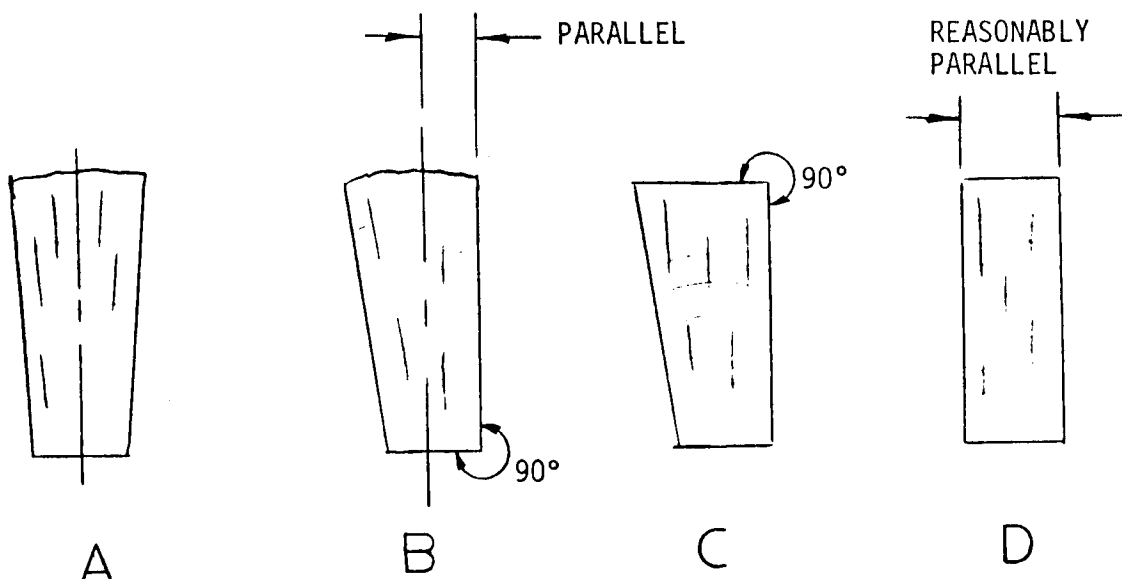

Figure 5-10. Neck Block Preparation
First, you can save yourself a lot of grief in laying out the neck if you spend a little time preparing the wood block. Lay out a line perpendicular to the center of the log as shown in Figure 5-10(A). Plane one side parallel with this line (B). Plane the wide edge square with this surface (C). Plane the other side reasonably parallel with the first reference side (D), and to the thickness of the scroll at its widest point (usually the eye). Lay the side view plan of the neck on the last side planed in (D), hold it firmly in place, and draw the outline of the neck. The square upper surface may be used for the fingerboard surface of the neck. Include the pencil dots for the curl of the scroll. Saw the neck out, keeping just outside the outline all around. File the outside smooth to the outline all around. Establish a very good centerline all the way around the outline; top, bottom, end, scroll, everything. Strips of heavy celluloid with good straight edges can be bent around the curves to connect the center marks. Drill 1/4 inch holes all the way through at the locations of the peg holes.